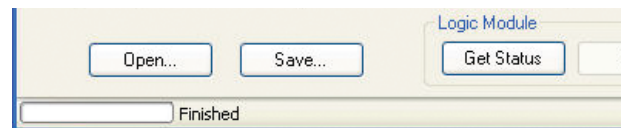

Figure 56
- If the COM port has been incorrectly set, an error message will appear. Return to the setup window (Figure 56), and reset the COM port to the correct one. Note: If you do not know which COM port to use, check the computer's device manager.
9. During the transfer of information, on the lower left side of the screen the status bar will show the information being downloaded (Figure 56).
- In order to exit from PC Link, press the **P** button seven (7) times. When the screen reads **Do you want to QUIT?**, press the **OK** button to exit.